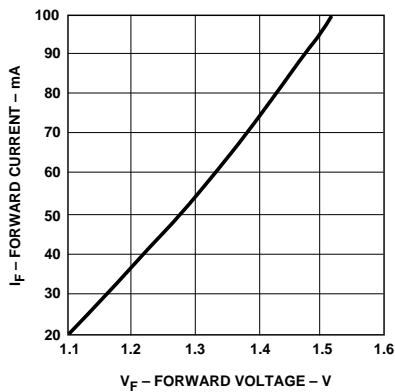

Figure 3. Typical Forward Voltage and Current Characteristics.
7. Optical rise and fall times are measured from 10% to 90% with 62.5/125 μm fiber. LED response time with recommended test circuit (Figure 3) at 25 MHz, 50% duty cycle.